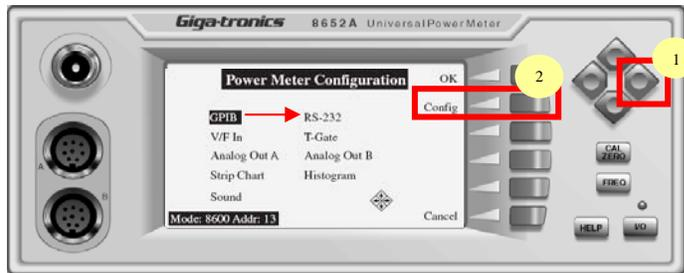

Figure 6: Select the RS-232 connection
- Arrow over to select RS-232. Press the “Config” soft key. See figure 6.